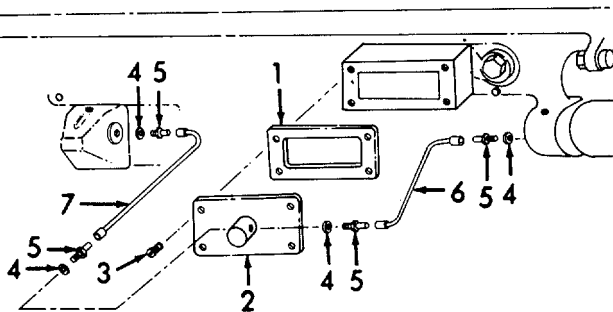

Figure 6-44. Lower (Bed) Lubricating Oil System, Installation.
- (1) Inspect hardware for damage.
- (2) Inspect the oil lines for damage.
- (3) Inspect the connectors for damage.
- (4) Inspect the cover for damage.
e. Installation (Refer to Figure 6-44).